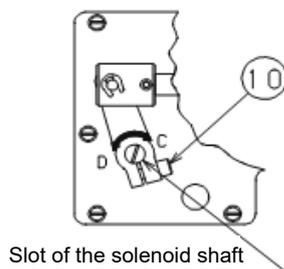

Fig. 12
Tighten the solenoid arm A tightening screw ⑩ (one place) to secure the solenoid arm A. Then, activate the knee switch and check the presser lifting amount. The presser lifting amount varies depending on the specifications of the sewing machine, so check the "Presser lifting amount by model" table below. If it is significantly different from the standard adjustment value, loosen the solenoid arm A tightening screw ⑩ (one place), insert a screwdriver into the slot on the end face of the solenoid shaft, turn the solenoid shaft, and tighten the solenoid arm A tightening screw ⑩ (one place). Then activate the knee switch (assembly) again and check the presser lifting amount. (Fig. 12)